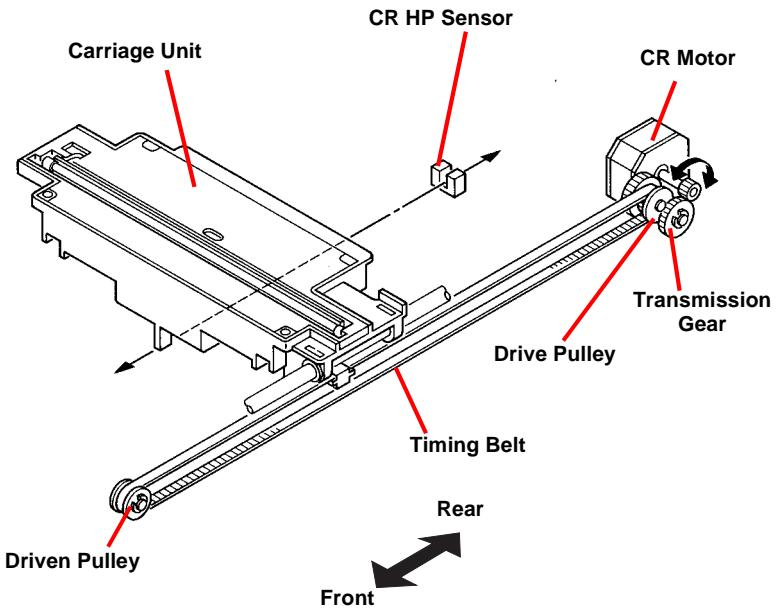

Figure 2-4. Carriage Operation
The carriage unit slides in the sub-scan direction along the guide rail. To slide the carriage, the carriage (CR) motor drives the timing belt attached to the carriage unit by conveying torque via the drive pulley and transmission gear. Scanning start position is determined by CR HP sensor, which is located on the control board. Since the CR motor is a stepping motor, it is controlled under the open loop system. (See Figure 2-4.)